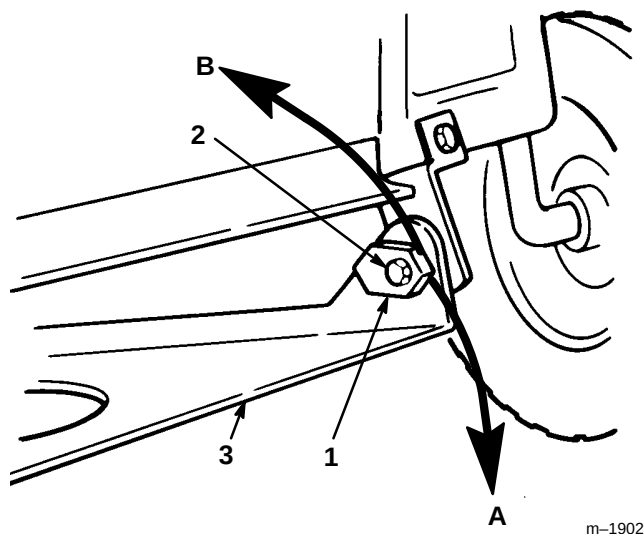

**Figure 49**
6. Measure the length of the rod extending out the front of the adjusting block on the sides of the chassis (Fig. 49). If the rod length is not 5/8" (16 mm), remove the hair pin cotter and washer from the end of the rod (Fig. 49), and turn the rod until the 5/8" (16 mm) dimension is obtained. Then install the end of the rod into the hole in the mower mount and secure in place with washer and hair pin cotter. Repeat this procedure on the opposite side of the mower.